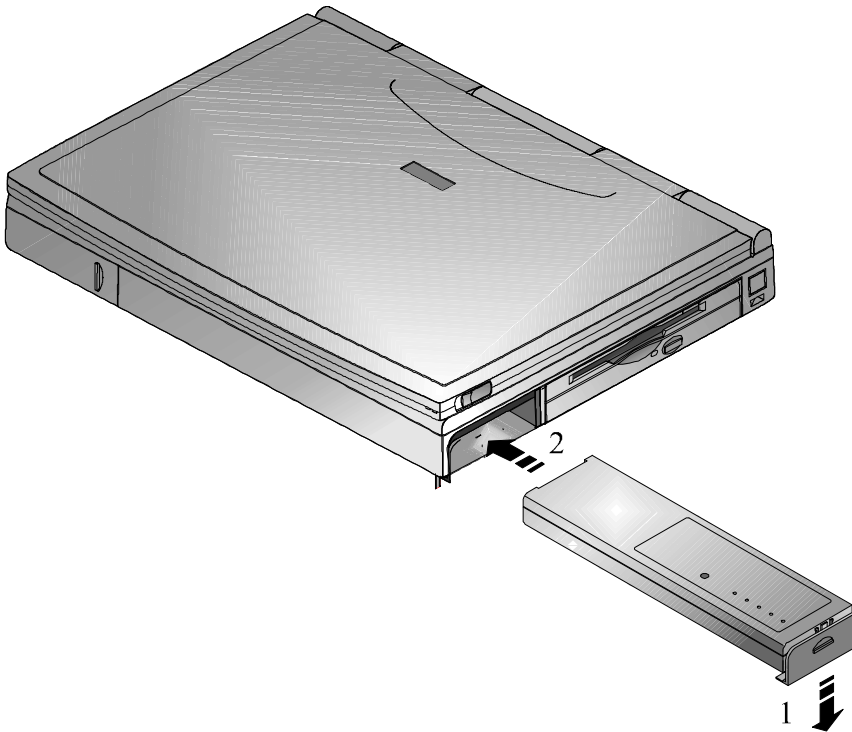

Figure 2-2: Installing the Main Battery (step 1)
1. Holding the main battery so the LEDs are facing up, slide the on-battery lock/release clip to its down position. (Figure 2-2, step 1).
2. Slide the battery into the battery bay housing (Figure 2-2, step 2). When the battery has been installed properly, it fits flush with the side panel of the notebook.